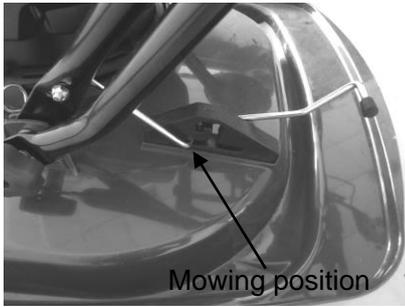

Fig. 10
1. Lifting the hook to the “Mowing” position. (Fig.10)